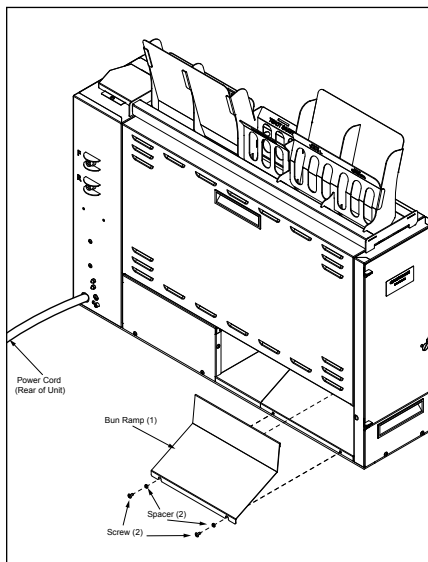

Figure 2. Bun Ramp
4. Remove the Bun Ramp as shown in Figure 2, next page)
11. Reinstall the Bun Ramp (Figure 2).